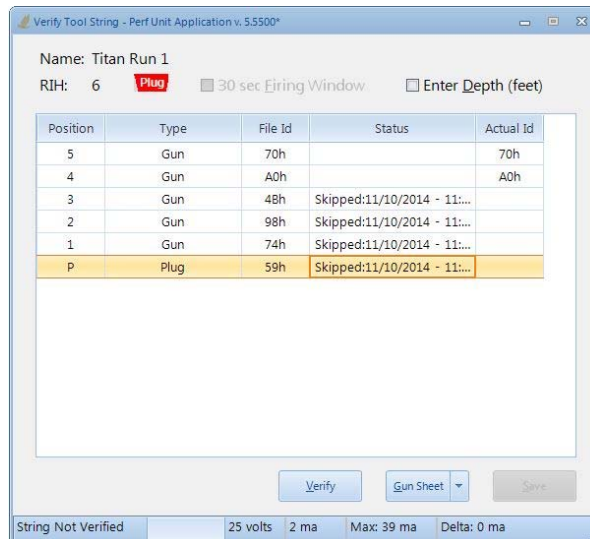

Figure 44
4. The skip operation is accomplished for each gun by right clicking in the Status column and the row of the gun to be skipped. This action opens a dropdown window. Select Skip from the dropdown. For this example, the Plug and Guns 1 through 3 were skipped. The result is seen in Figure 44.